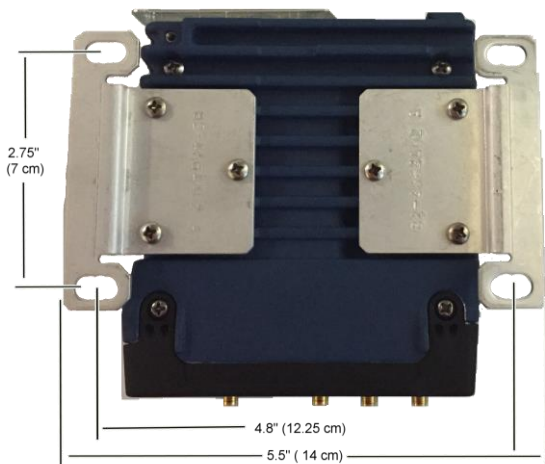

Figure 2: Mounting Bracket Dimensions
1. **Mount the unit.** Attach the supplied brackets to the bottom of the case (if not already attached), using the screws provided. Mounting bracket dimensions are shown in Figure 2: Mounting Bracket Dimensions. If DIN Rail mounting brackets are to be used, consult the *Technical Manual* for details.